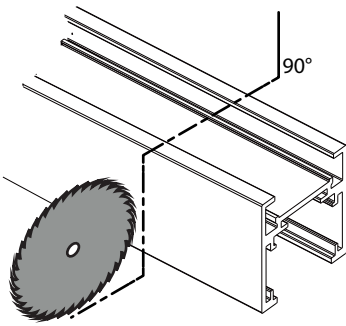

Figure 1
1. If needed, cut the linear profile to the desired length through laser cutting (recommended operation) or alternatively with a circular saw designed for metal profiles (Figure 1).